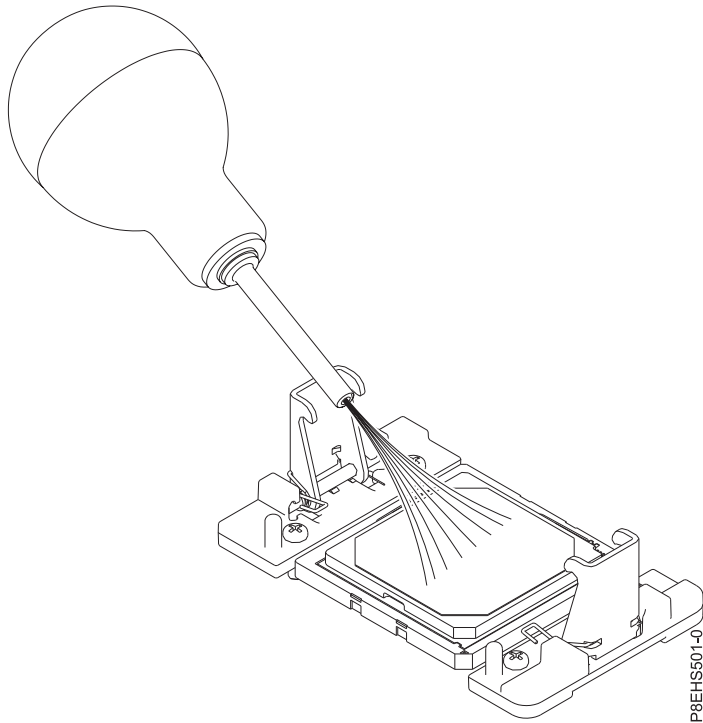

Figure 91. Removing dust and debris from the system processor module area
- a. If dust or debris is present, use the supplied air pump (part number 45D2645) to clean the system processor module area. Blow small bursts of air from the center toward the sides of the system processor module as shown in Figure 91 on page 89. If your air pump is not assembled as shown in Figure 91 on page 89, fasten the tip onto the bulb.